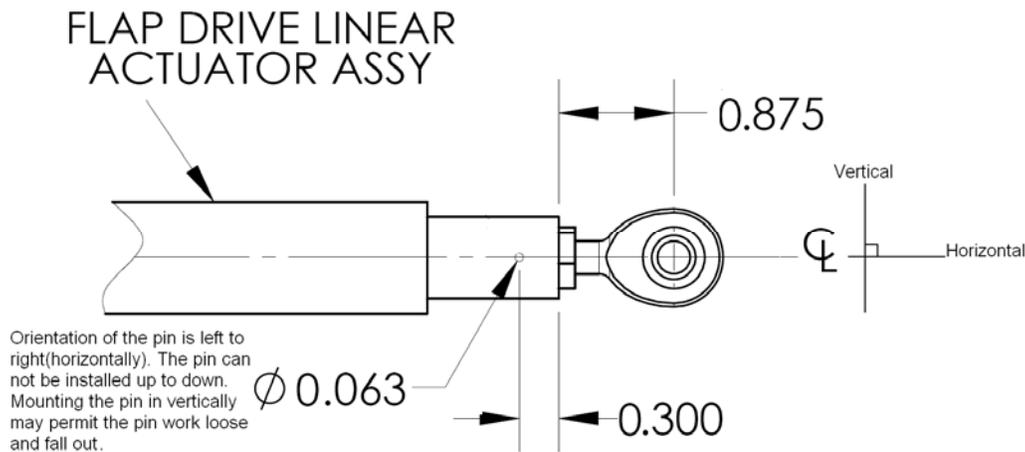

Figure 27-71 Flap Actuator Installation
2. Install bolt securing forward end of actuator (3) to airplane space frame structure.
3. Support flap so that bearing end of actuator (2) can be positioned in fitting on flap cross tube, and install bolt and split pin.
4. If installing a new flap actuator, drill hole as shown in Figure 27-71 and drive safety pin in to keep column from moving out of place if jam nut loosens. Orient the new pin left to right (horizontally). Do not mount the pin vertically (up to down).